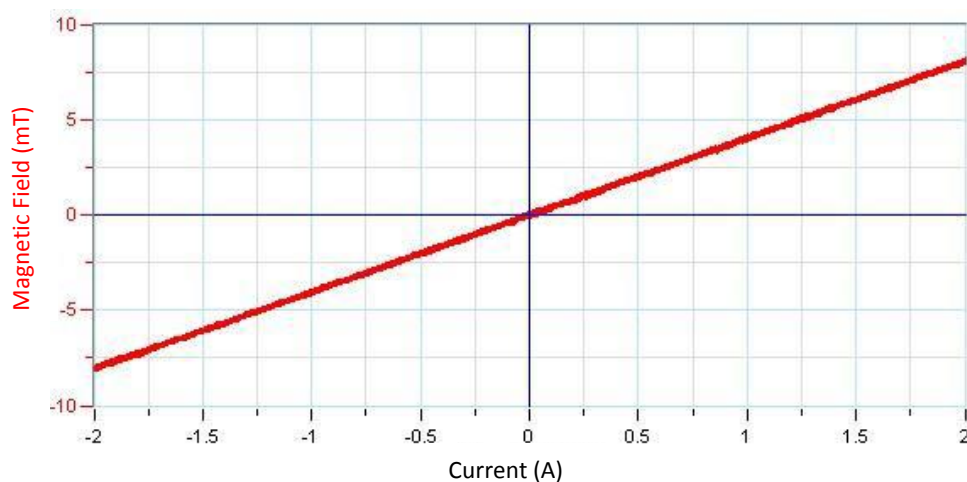

Figure 3
1. Create a graph of magnetic field vs current by selecting the down arrow (▼) from the **Graph** toolbar and choosing Current as your x-axis measure (Figure 3).